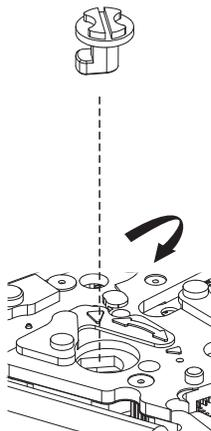

Fig. 1
- Short-circuit by touching the AC pattern and the rechargeable battery guard with tweezers (refer to the Fig. 1).
Set the TRAIN WHEEL BRIDGE FIXING PIN as shown in the illustration, and fasten it by turning it clockwise by 90 degrees. (Refer to the Fig. 1.)